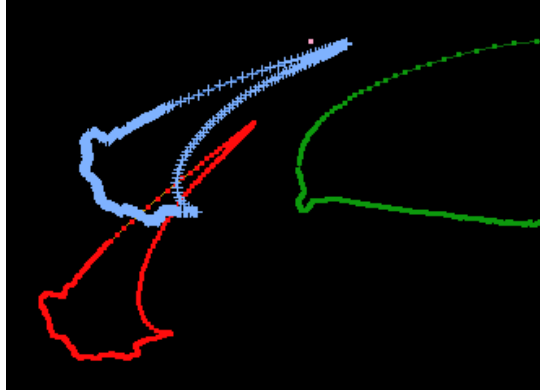

Figure 14. Preview of slat rotated and translated.
- Change the *Rotation* parameter: drag the slider to the left to  $-20$  or enter the value in the adjacent text field and press <Enter>. Notice the slat is rotated around the hinge point location  $(0, 0)$ . Translate the object by entering a value of  $.05$  for *X-translation* and  $.05$  for *Y-translation*. Press <Enter> to see a preview of the new location, shown in blue. Your geometry should look like that illustrated in Figure 14.